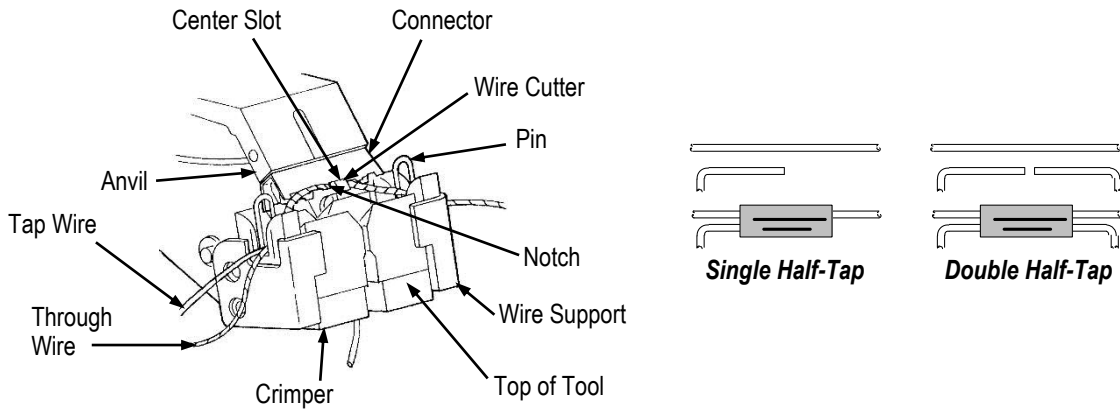

Figure 4
### 5.2. Tap Connections (See Figure 4)
3. Place one wire into a connector and then insert the connector into the tool as shown in Figure 4. Make sure the wire cutter enters the slots in the center of the connector and that the notch in the wire cutter does NOT interfere with the connector.